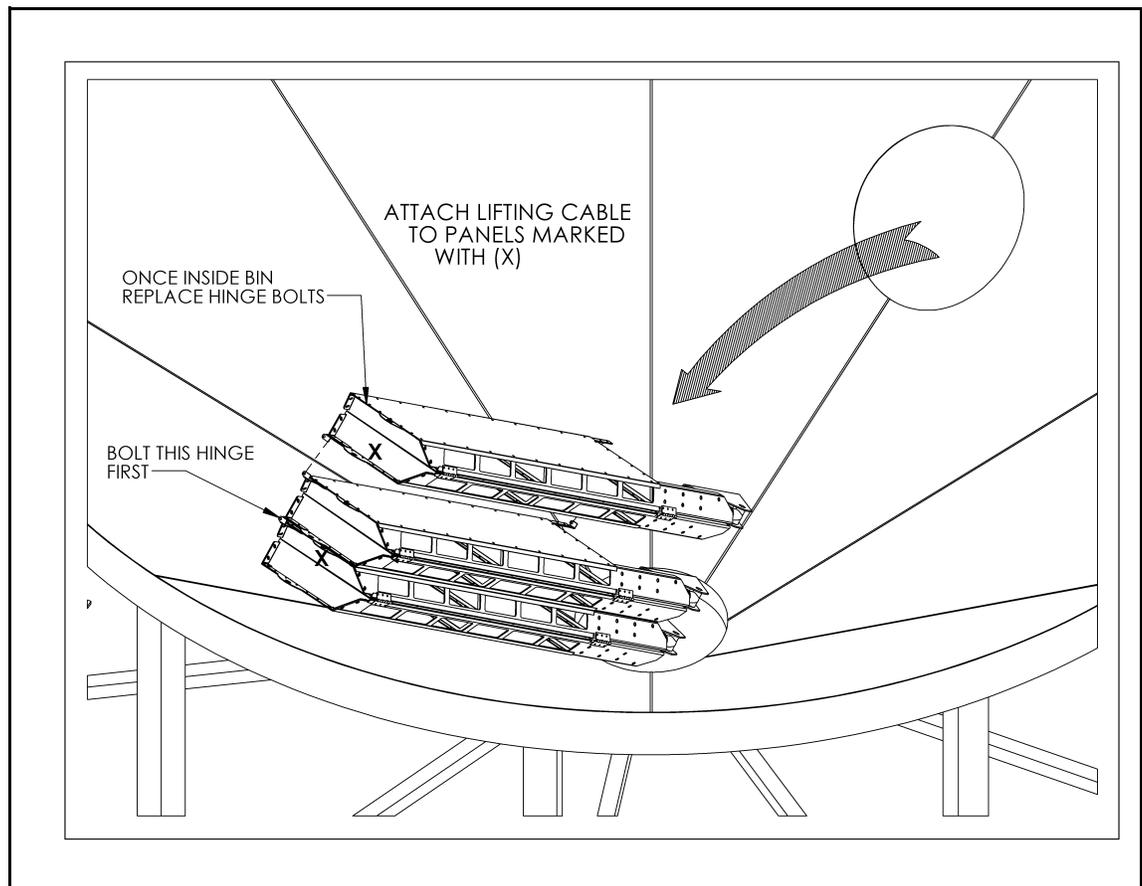

Figure 3.3
5. Lift sections 3 and 4 off together and insert into the bin through opening. Once inside, lay them on top of sections 1 and 2. Line up the hinge holes and place hinge bolts back in place. See Figure 3.3.
6. Lift sections 5 and 6 together and insert into the bin through opening. Once inside, place them on top of recently assembled sections 1, 2, 3, and 4. Align the hinge holes and put hinge bolts into place. See Figure 3.3.